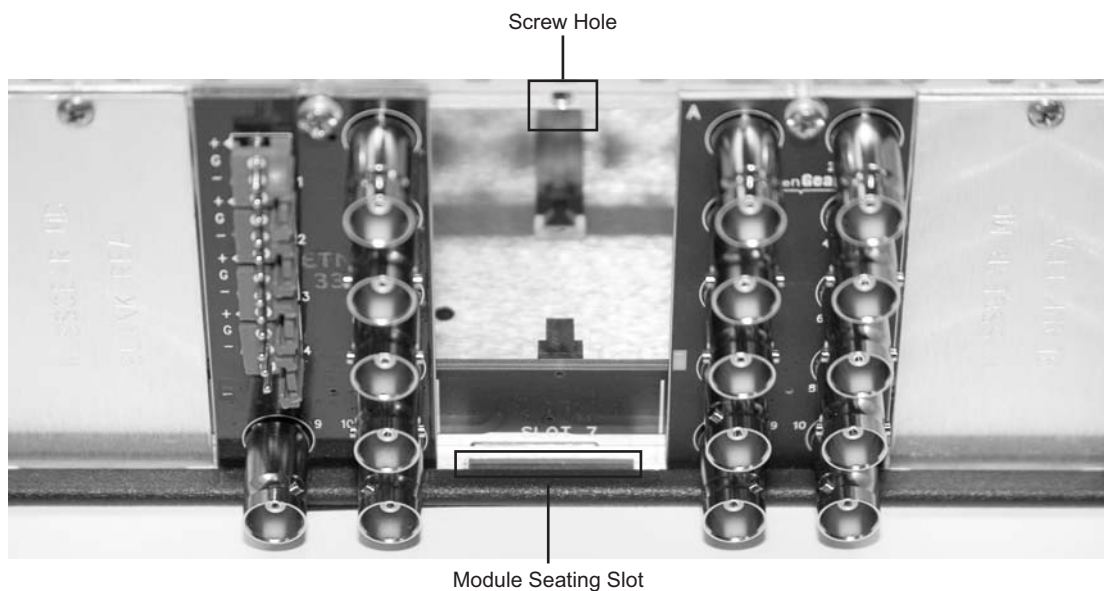

Figure 2.1 Rear Module Installation in a DFR-8300 Series Frame (VAC-100 not shown)
3. Install the bottom of the Rear Module in the **Module Seating Slot** at the base of the frame’s back plane. (**Figure 2.1**)